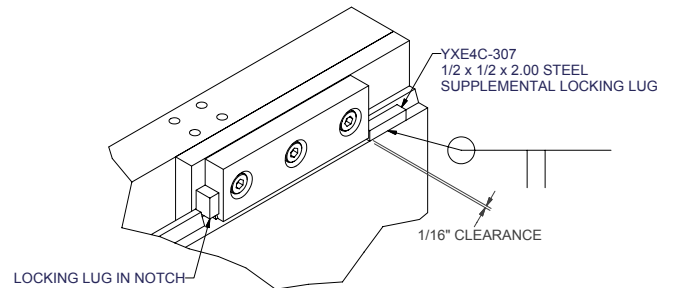

Figure 3-3, Locking Lug
8. Weld on the supplemental locking lug that is supplied with the attachment, (two pieces of 1/2 x 1/2 x 2.00 steel included with the attachment) with either E-6011 or E-6013 Welding Rod, or equivalent, on each side of the truck carriage. (Figure 3-3)